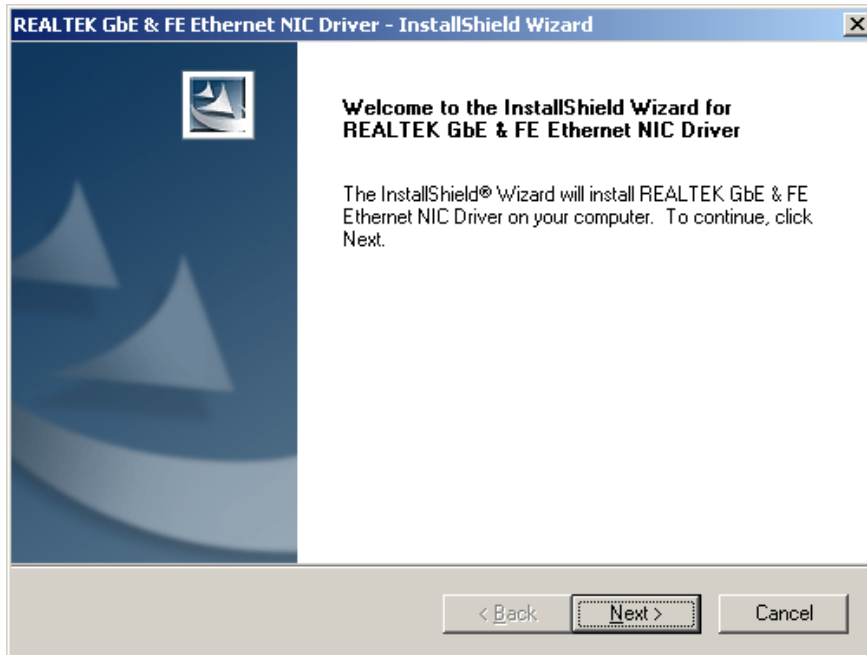

Figure 6-12: Realtek LAN Driver Welcome
Step 2: The **InstallShield Wizard Welcome** screen appears (Figure 6-12).